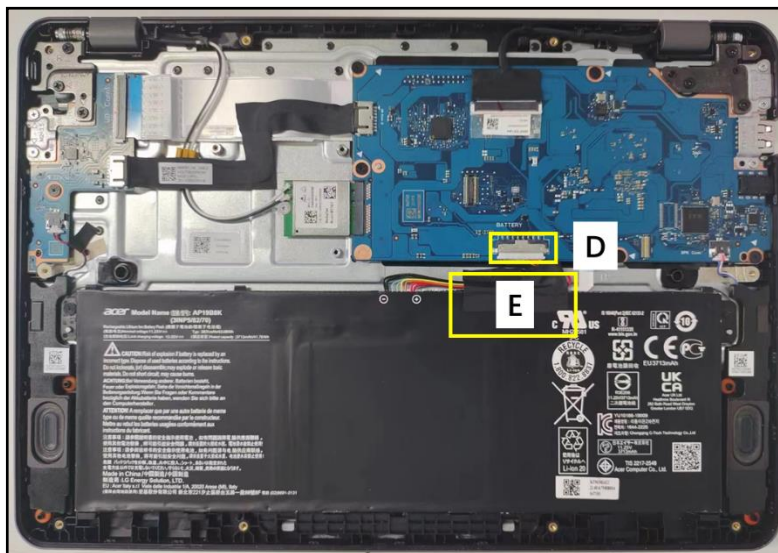

Figure 3-116. Replacing the Battery Pack
4. Attach the acetate tape (D) to secure the battery cable to the mainboard connector (Figure 3-116).
5. Attach the transparent mylar (E) to secure the battery cable in place (Figure 3-116).